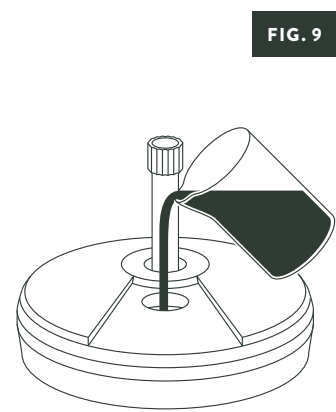

FIG. 9
3. Open the base and fill with sand or water. (Fig. 9)